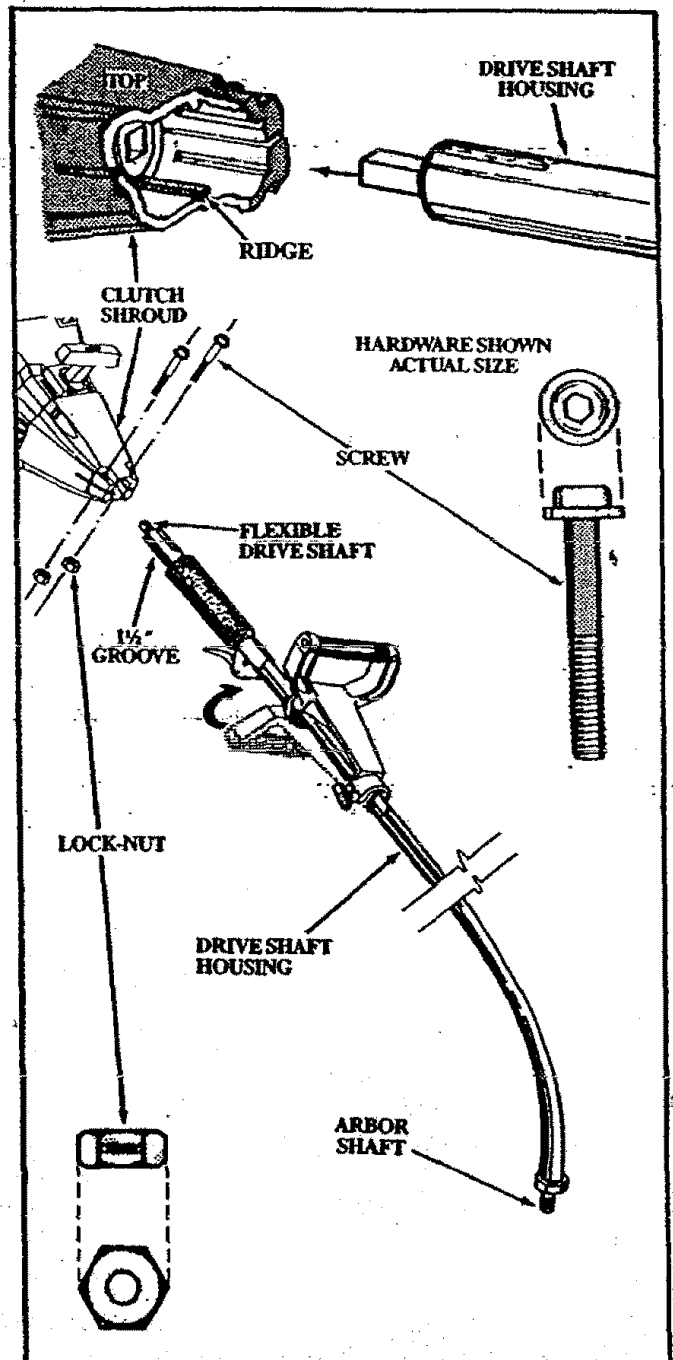

Figure 1
1. DRIVESHAFT HOUSING -- Figure 1
- Place the two Screws (from the loose parts bag) into the holes on the Clutch Shroud as shown in Figure 1.
- Turn Handle around and position the Drive Shaft Housing with the Arbor Shaft down as shown in Figure 1.
- Firmly push the Drive Shaft Housing into the Clutch Shroud until it contacts the Foam Grip or is within 1/8 inch. Figure 1.